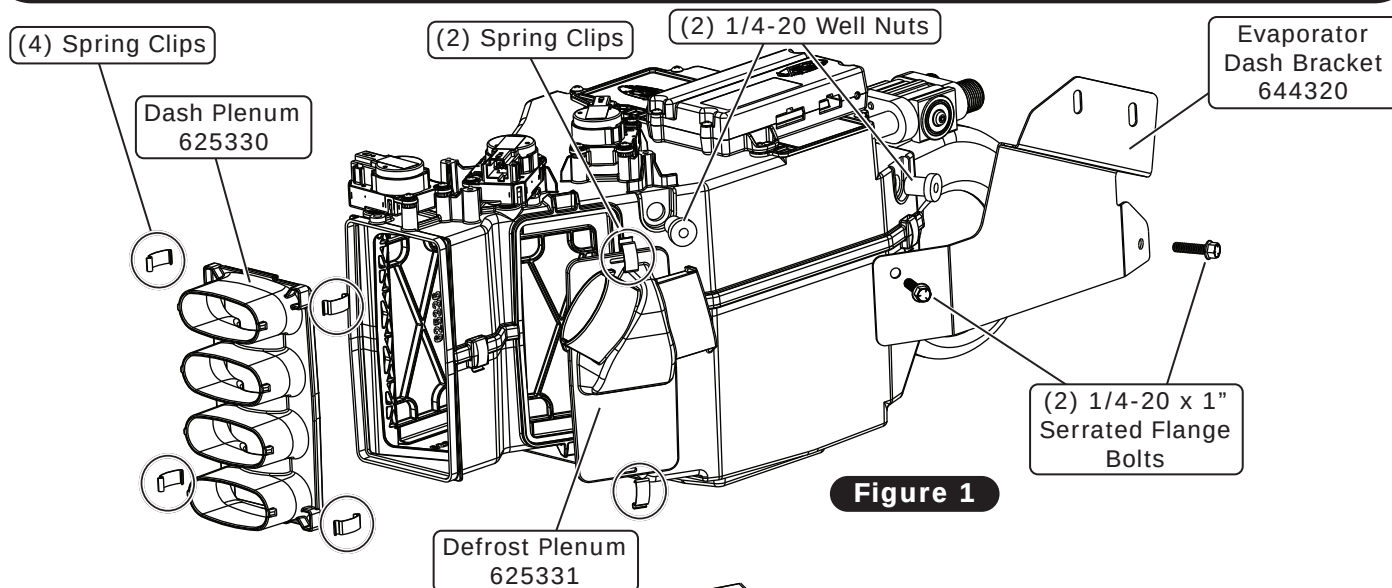

Figure 1
4. Attach the evaporator dash bracket onto the evaporator with (2) 1/4-20 x 1" serrated flange bolts (See Figure 1, below).